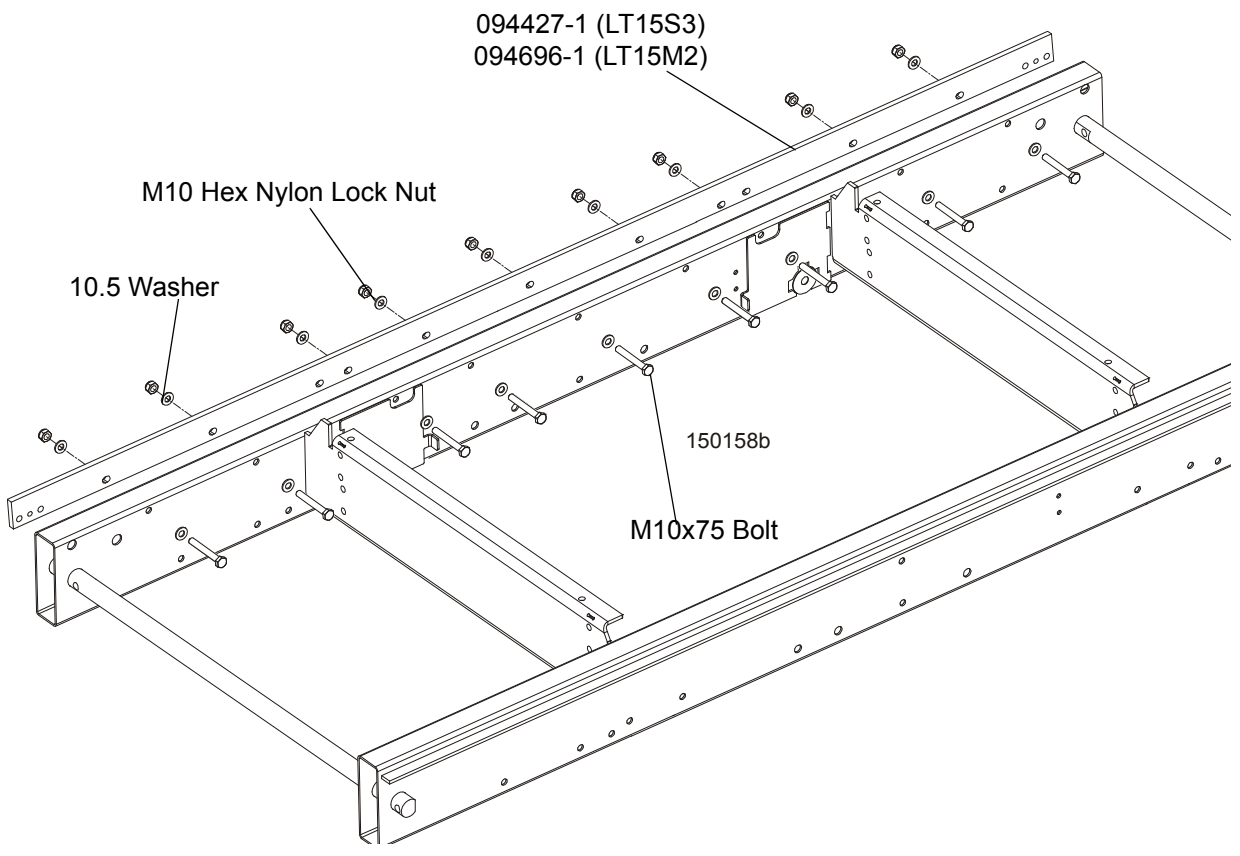

FIG. 2-3
1. Mount preliminarily the track rail as shown in Figure 2-3. Do not tighten the nuts.
See Figure 2-3.